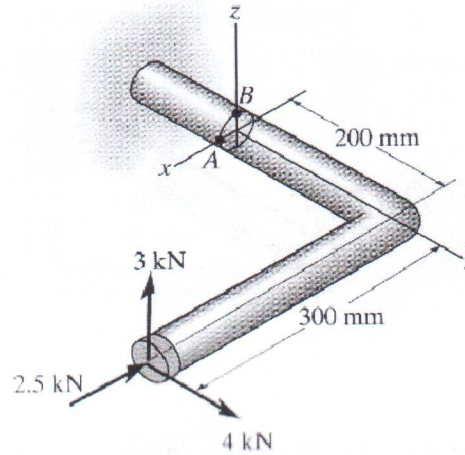

Figure 6.
- (6) The 50 mm diameter rod, shown in Figure 6, is subjected to the loads shown. Determine the state of stress at points *A* and *B*.